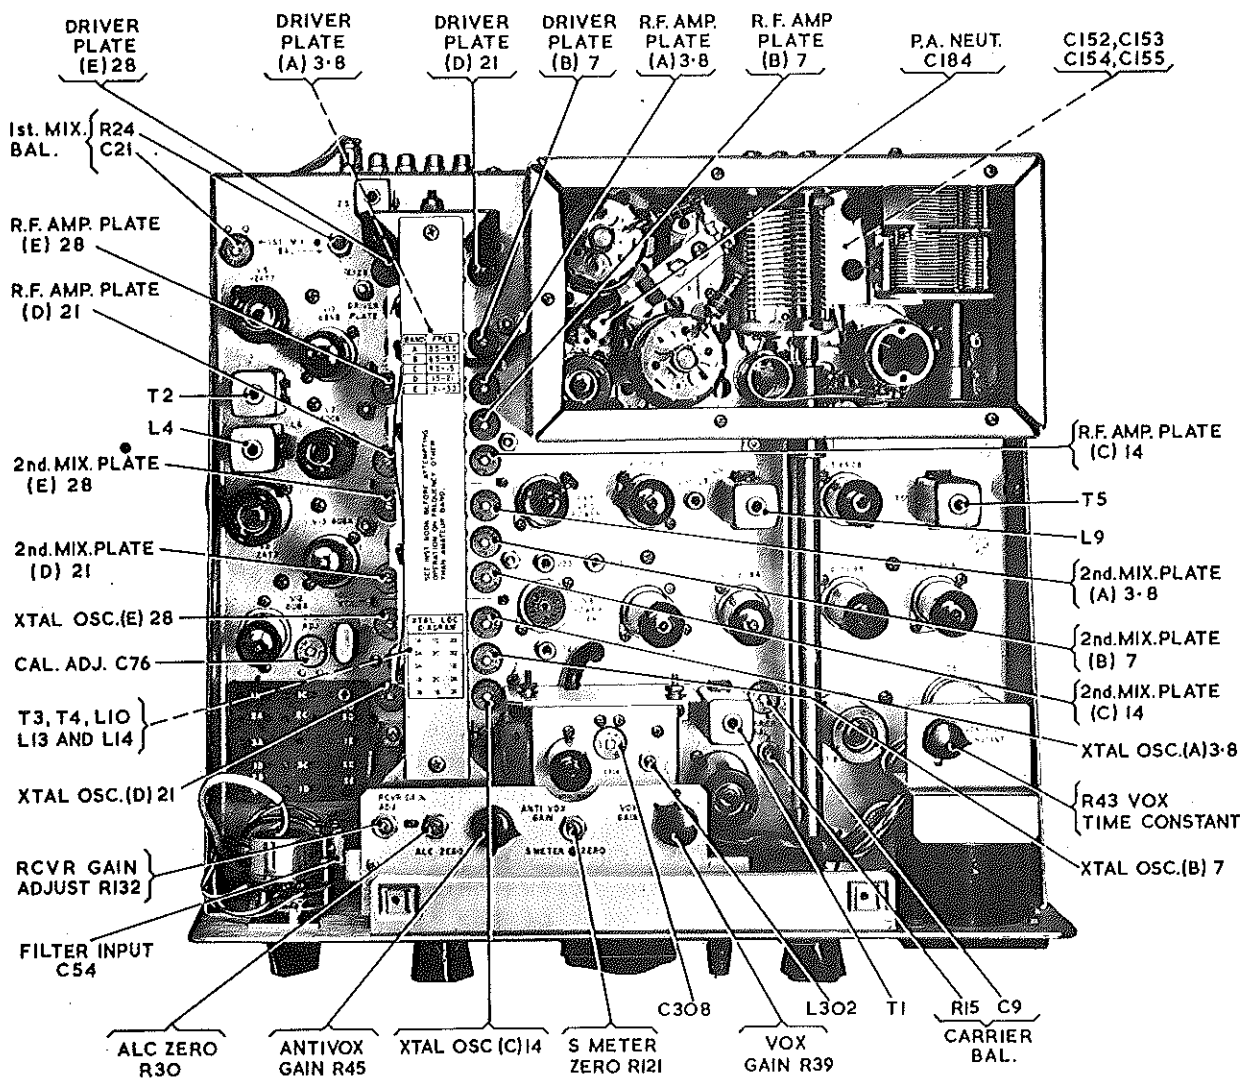

Fig. 1 Transceiver KWM-2A upper chassis view: location of preset adjustments
4. For the purpose of bench testing, the transceiver KWM-2A and the a.c. power supply PM-2 are considered as a complete assembly. The majority of the preset controls on the transceiver KWM-2A are accessible after opening the top cover (fig. 1) and, therefore, for certain alignment procedures it should not
- (1) Tune the receiver and transmitter channels to the centre of the desired 200-kHz frequency band in the normal manner (Pt. 1, Chap. 4).
- (2) Turn the MIC GAIN control to the fully counter-clockwise (OFF) position.
- (3) Set the EMISSION switch to LOCK and the meter switch to GRID.
- (4) Turn the MIC GAIN control clockwise to obtain a grid current reading on the meter of not more than one quarter full-scale deflection.
- (5) Locate the trimmer capacitors marked with the prefix letter corresponding to the band group in which the KWM-2A is operating (fig. 1), e.g. if the required frequency is 23 MHz, the KWM-2A should be switched to group E and the capacitors to be located are annotated (E)28. Similarly, the capacitors associated with group A are annotated (A)3.8. The figure following the letter refers to the frequency for which the capacitor was adjusted initially (para. 10). Further details of the capacitors and circuits that they affect are given in Table 1.